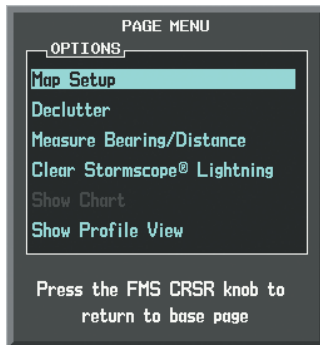

Figure 6-6 Navigation Map Page Menu
- 3) With Map Setup highlighted, press the **ENT** Key (Figure 6-6).